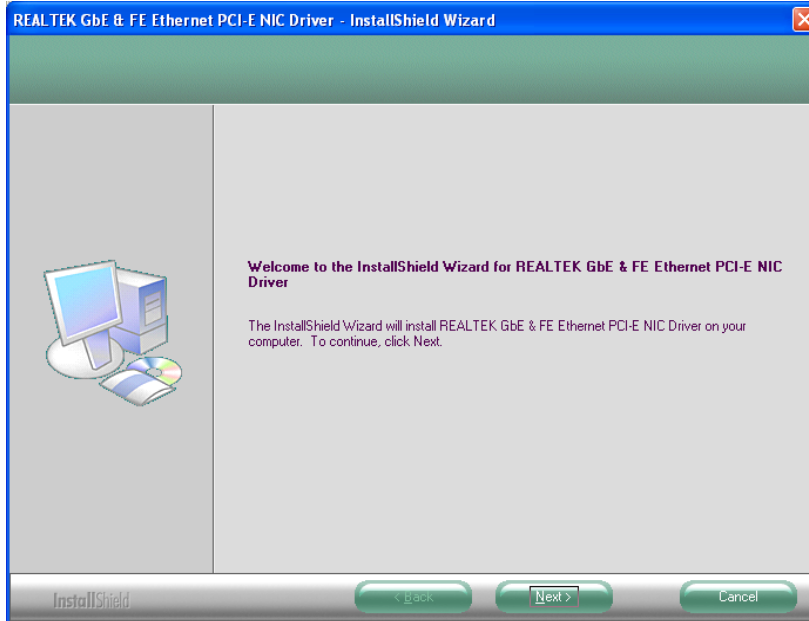

Figure 6-16: LAN Driver Welcome Screen
- Step 3:** The **Welcome** screen in **Figure 6-16** appears.